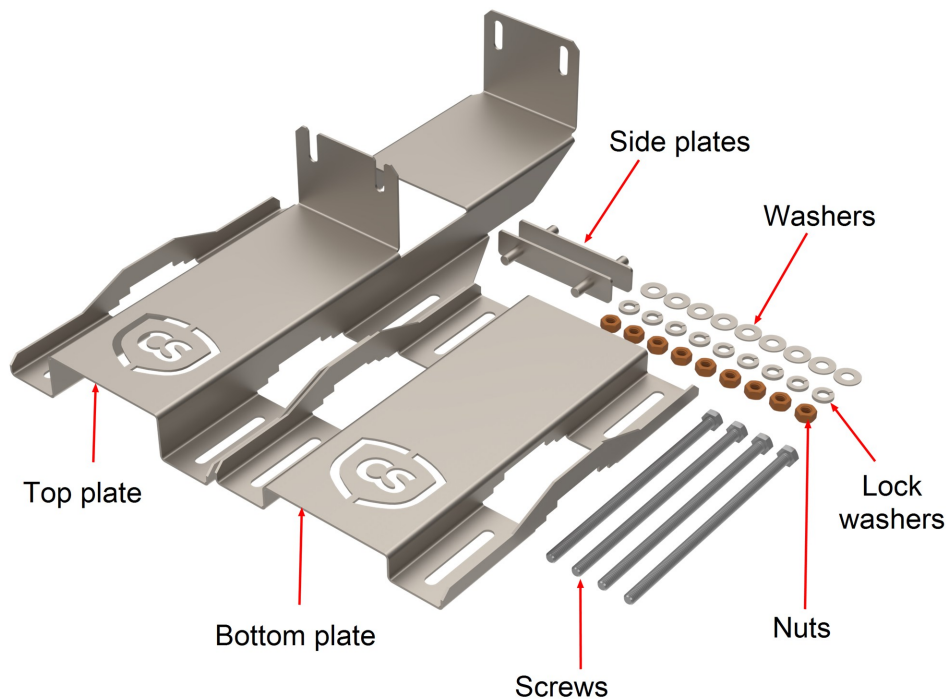
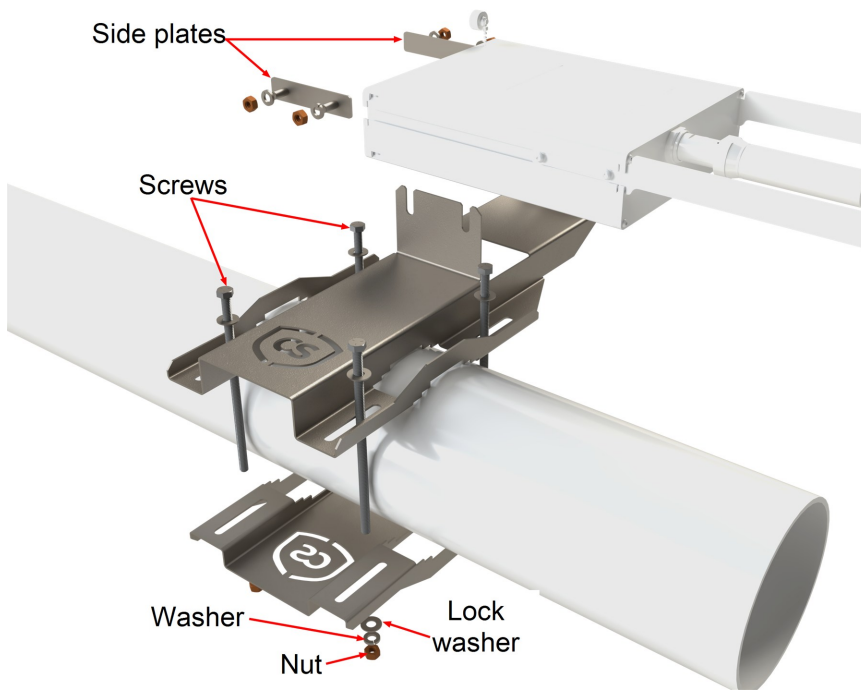

Figure 7-1. Tracker torque tube mounting bracket
Figure 7-2. Exploded view of mounting bracket
2. Secure the bracket to the tracker torque tube by using the four screws, four nuts, eight washers, and eight lock washers (see Figure 7-1 [p. 14] and Figure 7-2 [p. 15]).
3. Slide the side plates on the bracket (see Figure 7-2 [p. 15]).